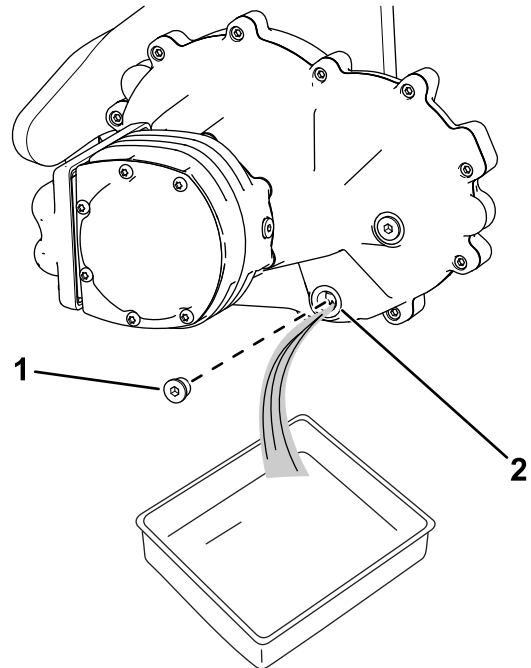

Figure 11
1. Place a drain pan under the wheel-motor assembly (Figure 11).
2. Remove the plug from the drain port (Figure 11).
5. Install the drain plug into the drain port (Figure 11).